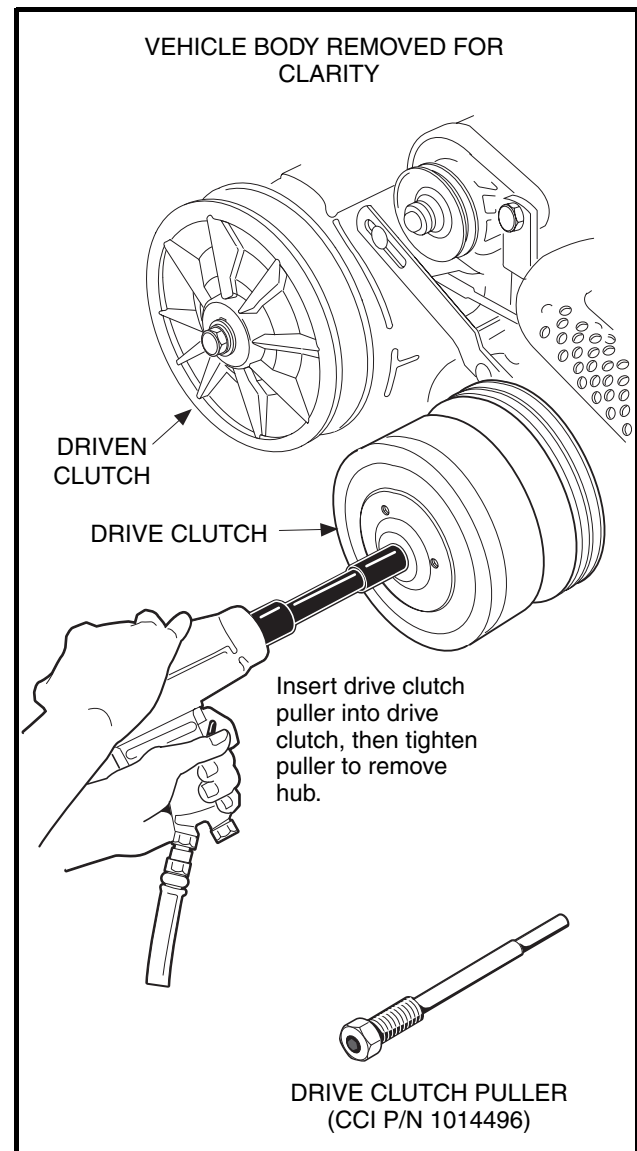

Figure 17-4 Drive Clutch Removal
8. Using a 1/2-inch drive air wrench, tighten the clutch puller tool. The drive clutch will come free of the crankshaft (**Figure 17-4, Page 17-4**).